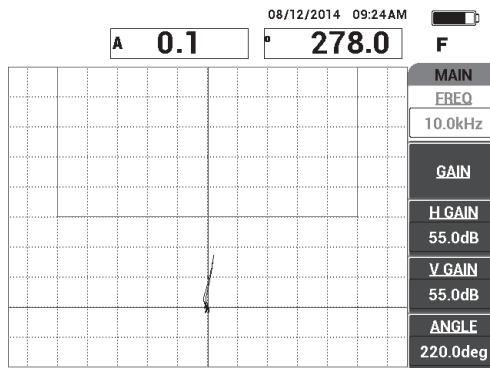

Figure 6-24 The scan signal of a disbond
3. Slowly scan over one of the 13 mm (0.5 in.) disbonds, and then press the FREEZE key () [see Figure 6-24 on page 147].